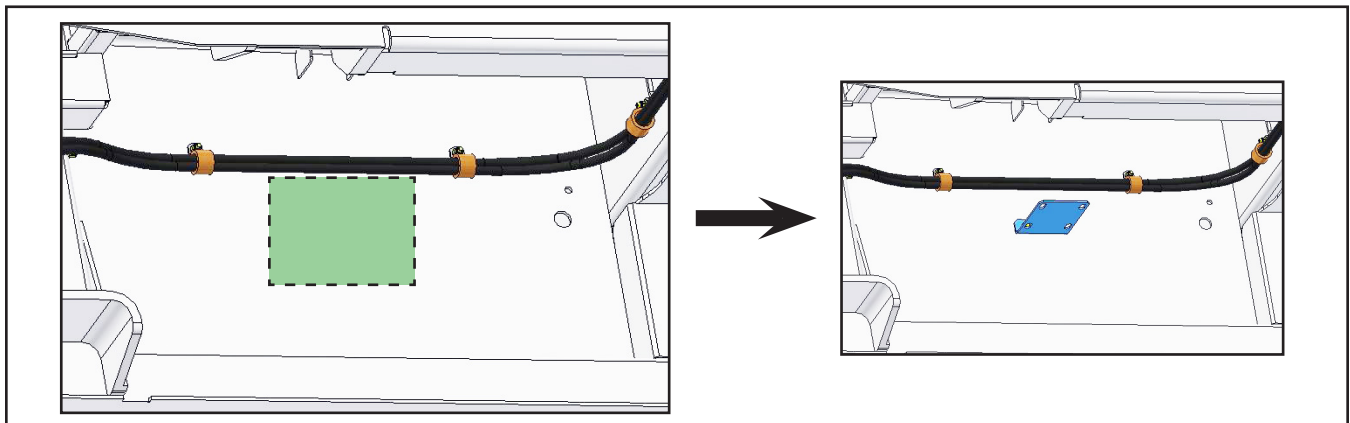

Figure 2 - New Fuel Filter Assembly Support Bracket Position (Some Components Removed for Clarity)
Position in the area shown in Figure 2 and validate for any interference with components installed in the **BATTERY COMPARTMENT** on the other side of the structure.
- 1.6. Position the new fuel filter support N98827 on the structure, centered between the 2 p-clamps. Level and mark the mounting holes position (Figure 2).